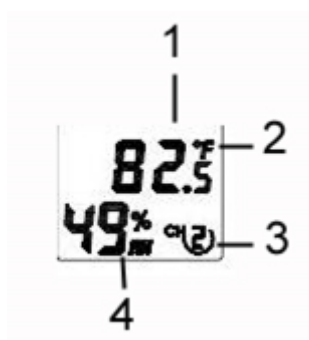

Figure 12
6. Verify the correct channel number (CH) and temperature units of measure (°F vs. °C) are on the display, as shown in Figure 12.